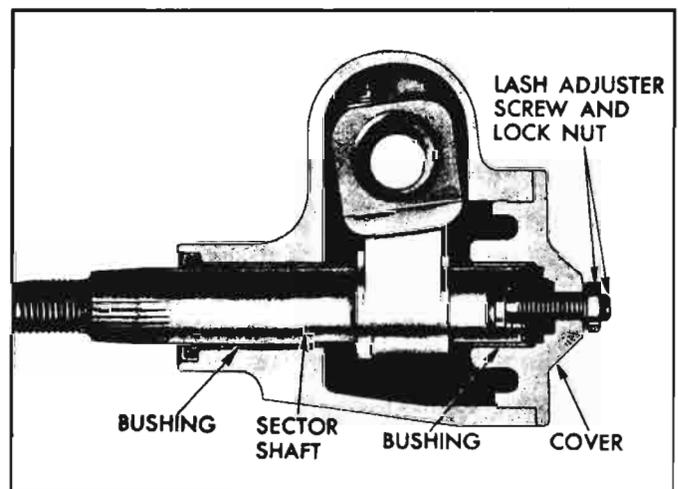

Fig. 4-4—Sector Gear and Pitman Shaft
1. Remove pitman arm nut and lockwasher and, using Tool J-6627, pull pitman arm from pitman shaft (fig. 4-4).
5. After proper worm adjustment is obtained, and all mounting bolts are securely tightened, adjust the lash adjuster screw (fig. 4-4). First turn the steering wheel gently from one stop all the way to the other, counting the total number of turns. Then turn the wheel back exactly half way to the center position. The mark on the wormshaft should be at the 6 o'clock position. The sawcut in the coupling should be lined up with this mark. Turn the lash adjuster screw clockwise to take out all lash in the